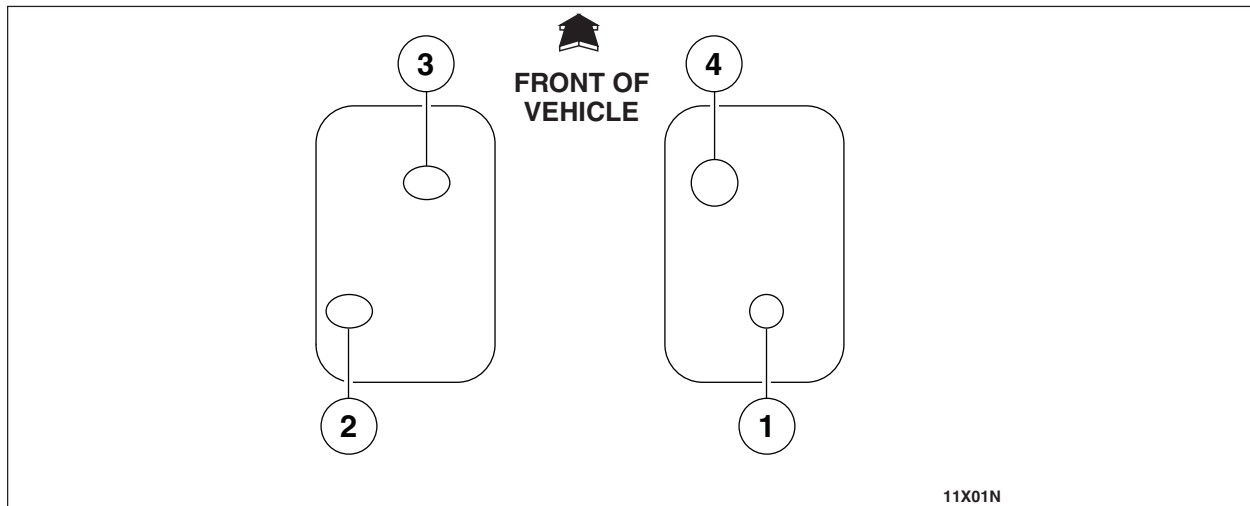

FIGURE 18
67. Install the **new** 60 percent seat bolts and nuts in the following sequence. See Figure 18.